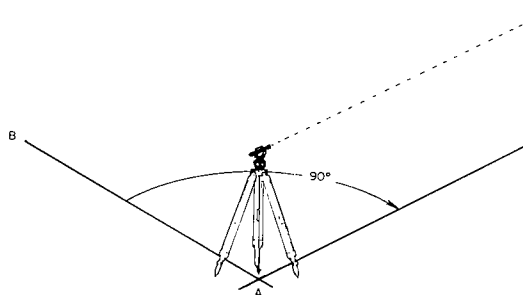

Figure 7
- 5.) Release the horizontal clamp screw and rotate the instrument until the desired angle can be read on the horizontal circle, then tighten the horizontal clamp (see Figure 7).
- 7.) Measure distance to point C and set a stake on line AC (see Figure 7).